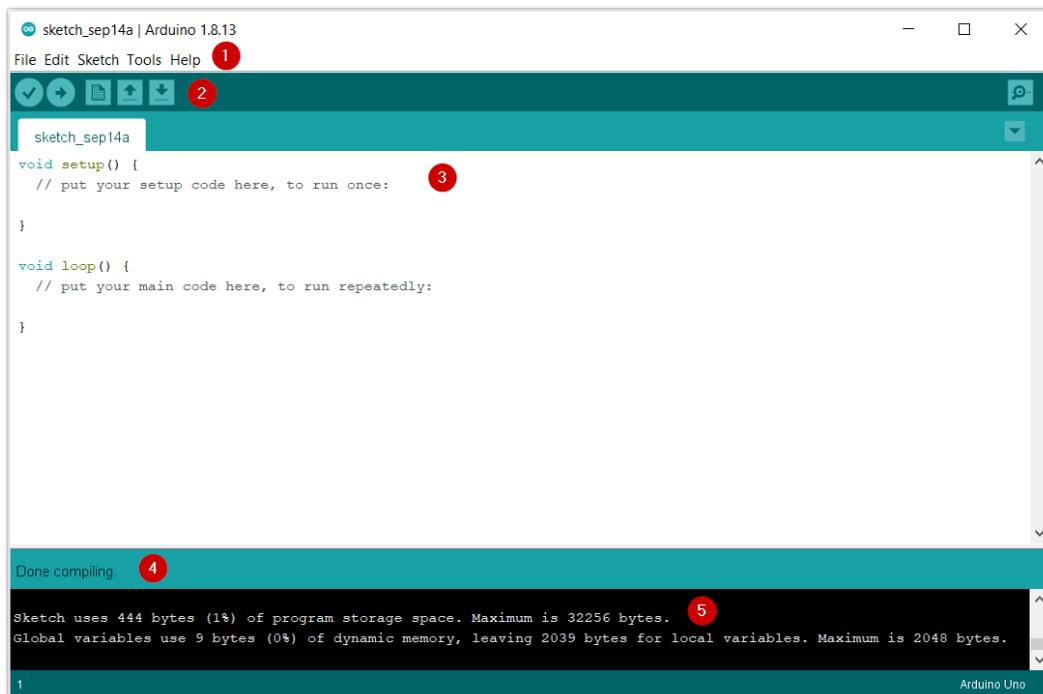

Figure 111: Arduino IDE
Figure 111 shows the five (5) parts of Arduino IDE.